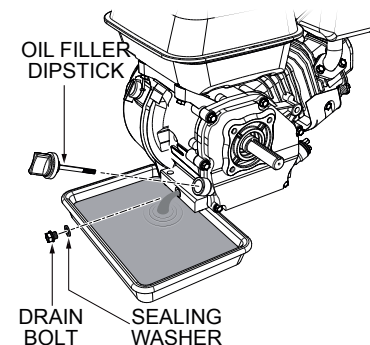

Figure 32. Draining Engine Oil
- Drain the engine oil when the oil is warm as shown in Figure 32.